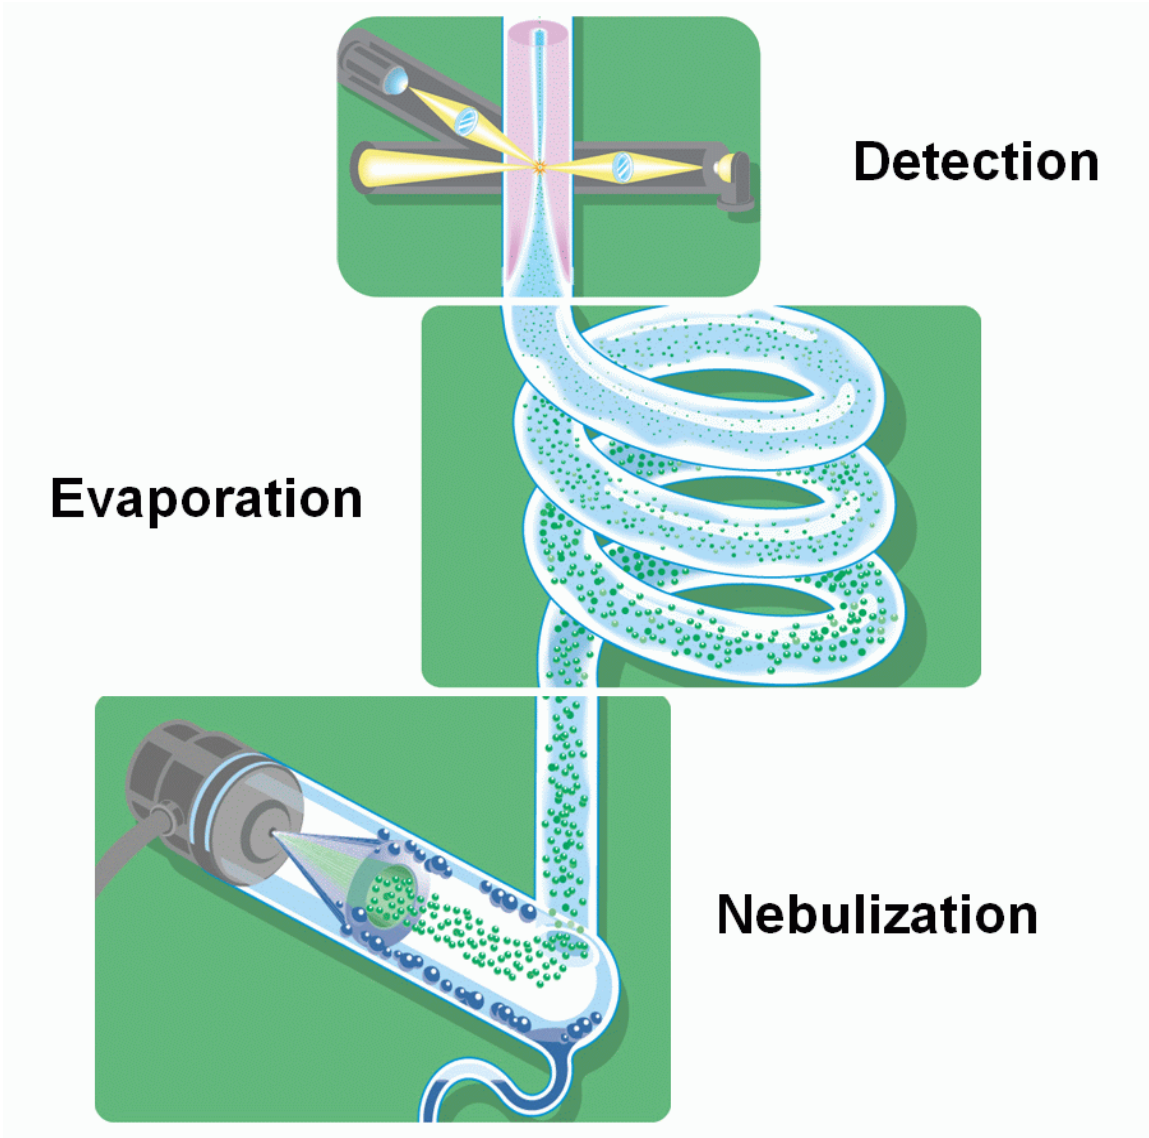

Figure 3 Schematic display of principle measurement steps in the ELSD of the Detector
Nebulization involves the conversion of the eluent into a fine mist. The mist is passed through an evaporator to vaporize solvent. In the detector unit, the mist is irradiated by a light source and scattered light is measured by a photomultiplier (PM). The degree of light scattering is related to the concentration of the compound of interest in the sample. A cross sectional view of the system is presented in Figure 3.